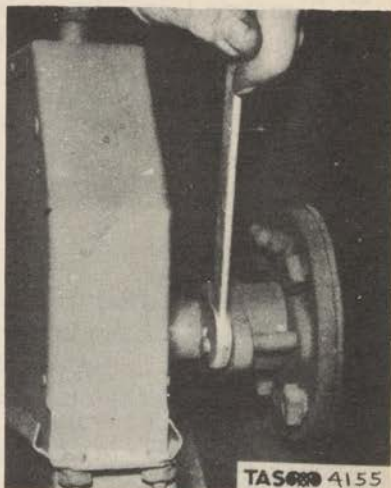

Figure 181. Tightening
b. Agitator shaft packing box. The agitator shaft packing box is located at the front end of the tank. It is bronze-bushed to form a bearing for that end of the shaft, the opposite end being held by a bronze bearing. Leakage from the packing box is stopped by tightening the stud nuts (fig. 181) which forces the gland into the box, compressing the five rings of packing. (When replacing packing, make certain that three rings of packing are placed in the bottom of the box first, then the ground and drilled steel lantern grease ring, two more packing rings, and finally the gland.) When making an adjustment, tighten the adjusting nut only enough to prevent leakage, as further tightening will materially shorten the life of the packing due to excessive wear. Lubrication daily or after each 10 hours of operation will prolong the life of the packing as well as lubricate the bronze bushing.